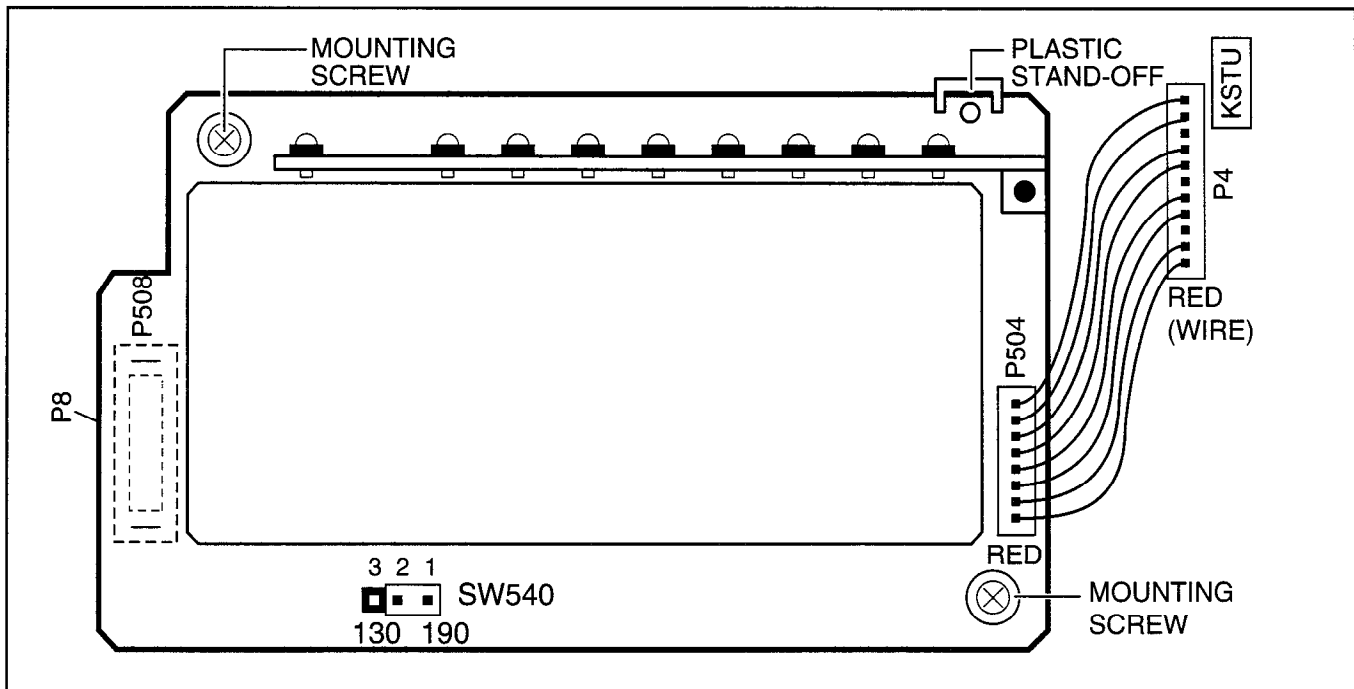

FIGURE 5-11
6.02 The KSTU is shown in Figure 5-11 and its connectors and controls are described in Table 5-A.